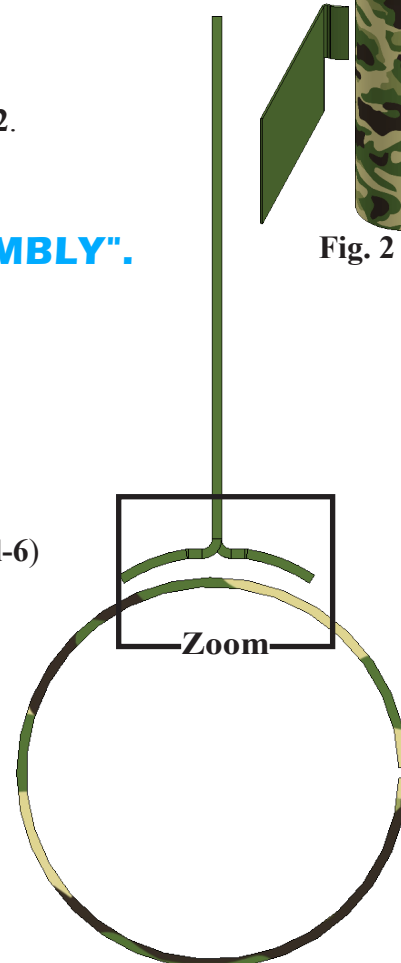

Fig. 3
- Step 2. **Drag the fin over to the tube, Fig. 3.**
- Step 3. Zoom in on **Fin meets Tube, Fig. 3**. To zoom, place the cursor over the flanges and tube and spin the wheel on mouse back. While spinning the wheel keep cursor on flanges and tube area.